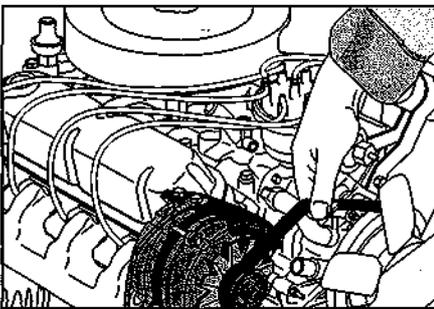

Figure 14-13:
3. To loosen the belt, move the part by grasping the belt and pulling sharply upward (see Figure 14-13).